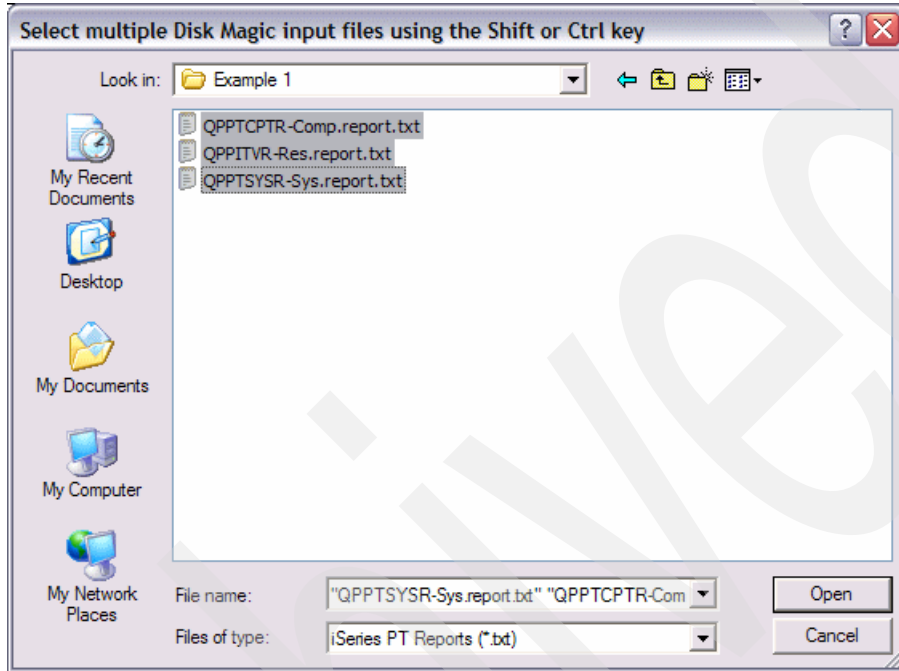

Figure 4-18 Inserting PT reports to Disk Magic
2. In the Open window (Figure 4-18), choose the directory that contains the performance reports, select altogether the corresponding system, resource and component report files and click **Open**.